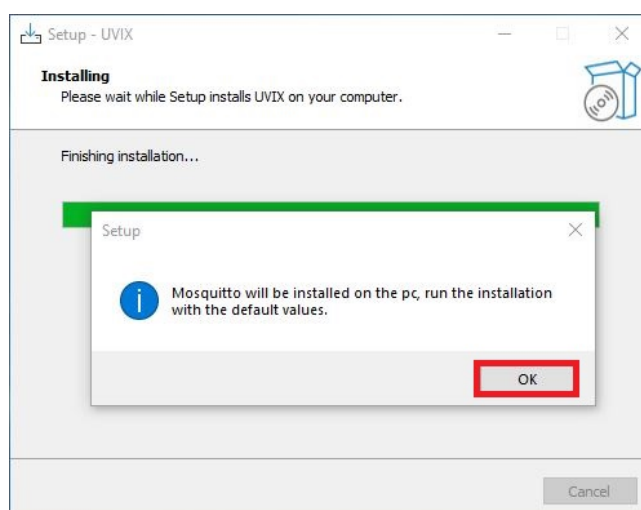

Figure 4.4: Fast Mode installation
- Click "Ok" to confirm the installation of Fast Mode, as shown in Figure 4.4.